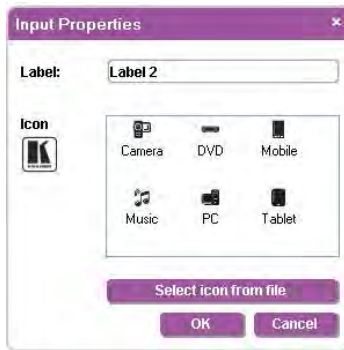

Figure 17: Input Button Properties Window
The input is selected and the button changes to solid purple as shown in Figure 17.
1. Click and hold on the **Output Volume** slider as shown in Figure 17.
The button **Input Properties** window appears as shown in Figure 17.